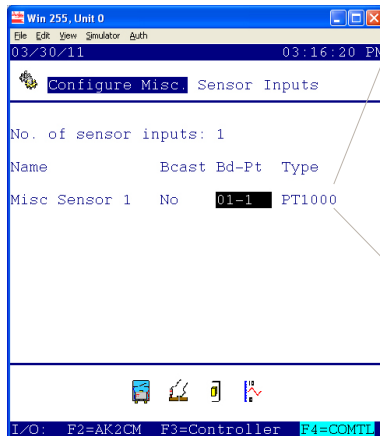

Figure 6
- 3c When assigning Com-Trol board points, first press F4 to convert the board-point type to the Com-Trol format. *Figure 6*